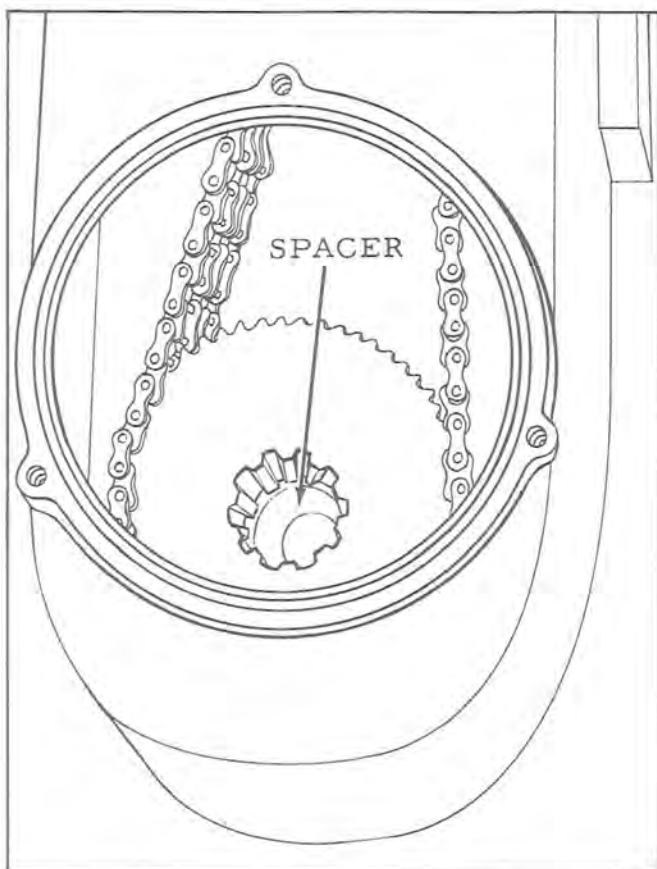

Figure 4
14. When replacing the drive shaft into the gear case, align the large sprocket and the spacer behind it with your finger before inserting the drive shaft (See Figure 4). Insert shaft and align notches on the end of the drive shaft with those on the sprocket in the gear case. Follow instructions under TRACK ALIGNMENT, and TRACK TENSION ADJUSTMENT when reassembly is completed.